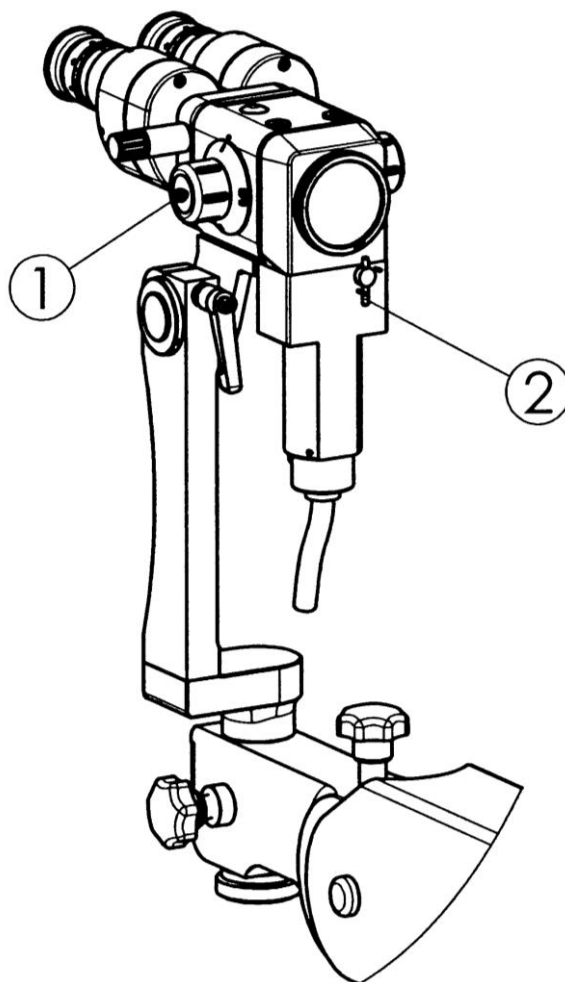

Figure 14
The device can be fitted with a colour filter as an option. Move the lever (2) to swivel in the colour filter (Figure 14)